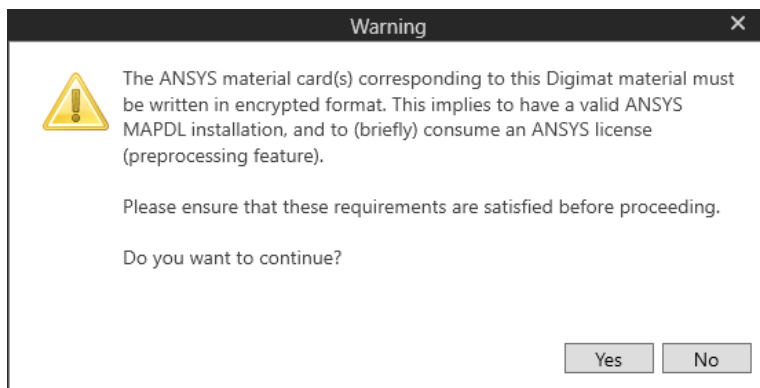

Figure 6-9 A valid ANSYS license is required to proceed with encrypted (T)EP materials.
- The encryption process requires to briefly consume an ANSYS license during the material properties generation (see Figure 6-9).